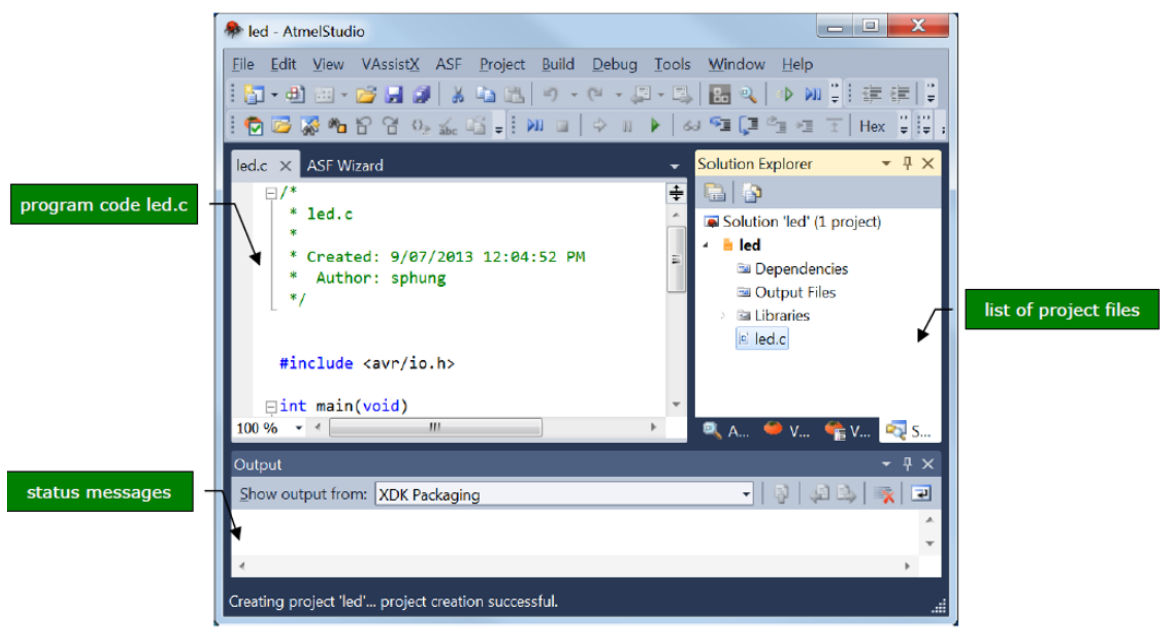

FIG 3. Atmel studio code editor
4. A Project will be created as shown in Figure 3